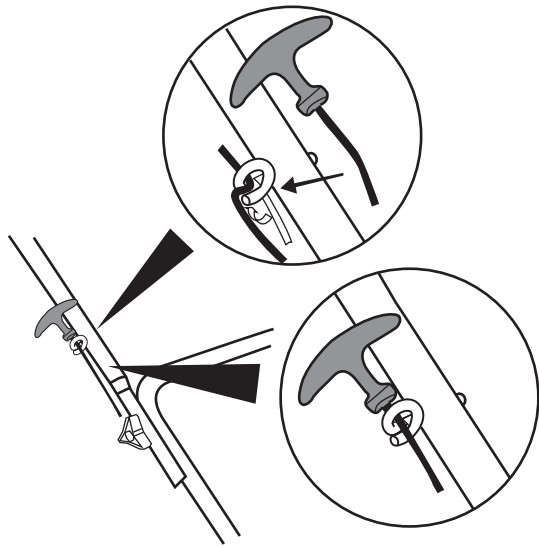

Figure 1-3
- Put the starter rope into the hook. See Figure 1-3.